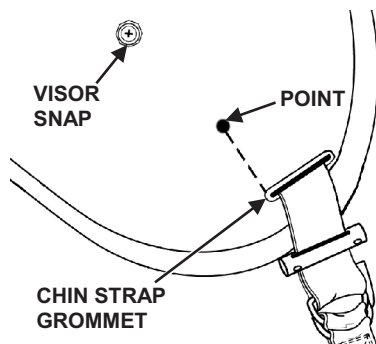

Figure 5. Large
- a. Referring to **Figure 5**, draw a line 2-5/8 inches long upward from, and perpendicular to, the rearward end of the chin strap grommet.